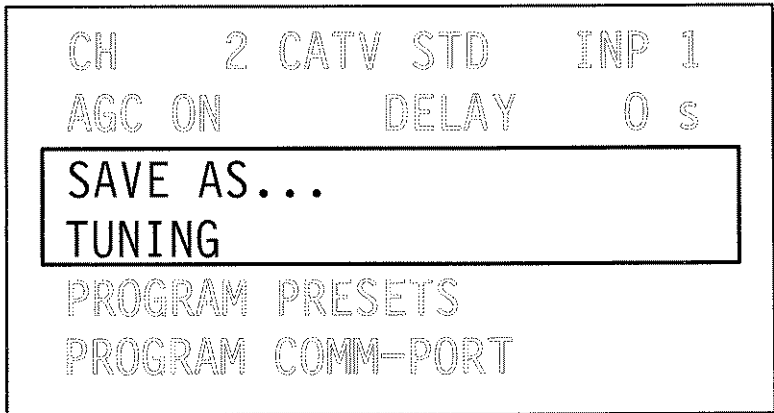

Figure 2-3: The TDC5 Display After Advancing to TUNING
1. Press the down key to advance through the menu commands until the word TUNING is flashing. The display will be similar to Figure 2-3.
4. Advance through the menu until TUNING is flashing. The display will be similar to Figure 2-3.